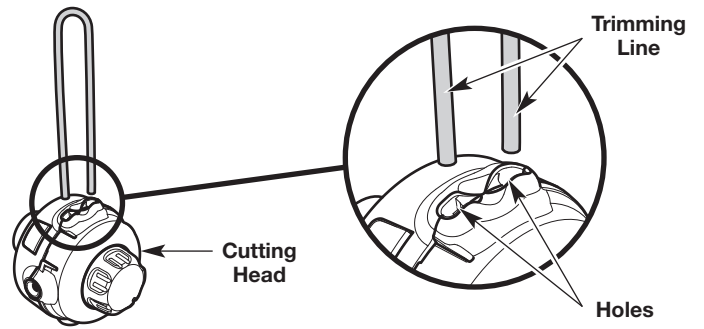
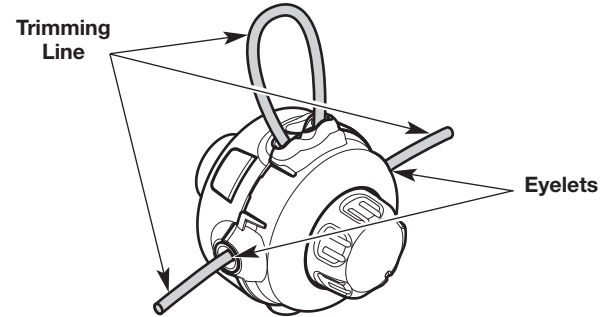

Fig. 28
Fig. 29
3. Insert the ends of the new trimming line into the holes in the cutting head (Fig. 28). Push the line through the holes until both ends protrude from the eyelets (Fig. 29).